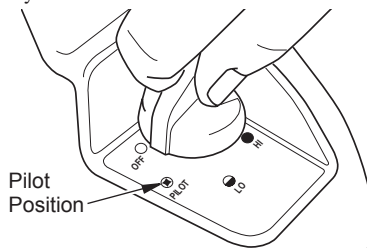

Figure 3 - Control Knob Positions
1. Make sure four-position control knob is in OFF position (see Figure 3).
1. Make sure four-position control knob is in OFF position (see Figure 3, page 6).